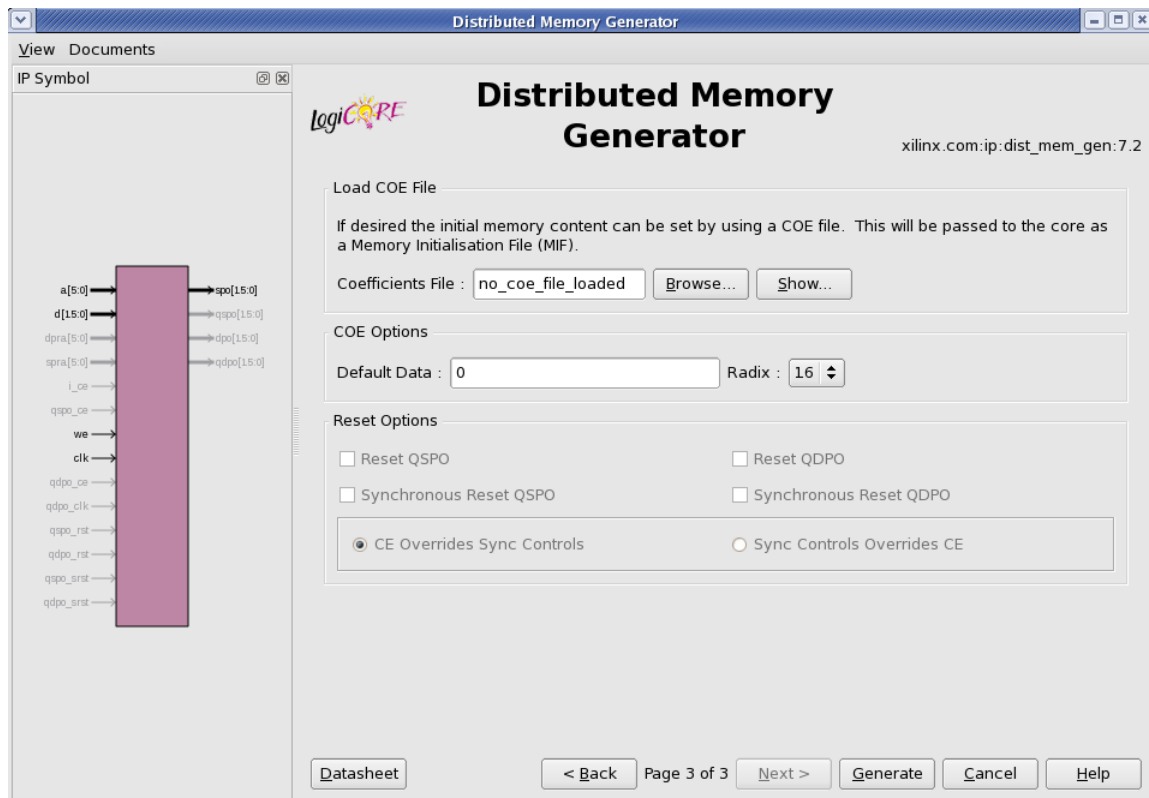

Figure 7-3: Initial Content and Reset Options Screen
- Initial Content and Reset Options Screen (Figure 7-3)